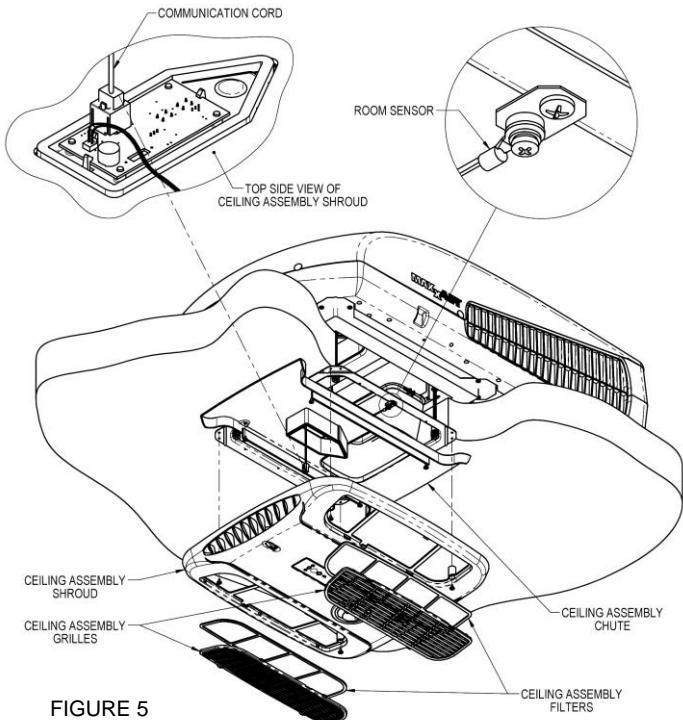

FIGURE 5
**VII. INSTALLING THE 9630\*451/9670\*451 CEILING ASSEMBLY** See Figure 5
Plug in the communication cord from the upper unit to the receptacle on the ceiling shroud as shown in the magnified section of Figure 5.